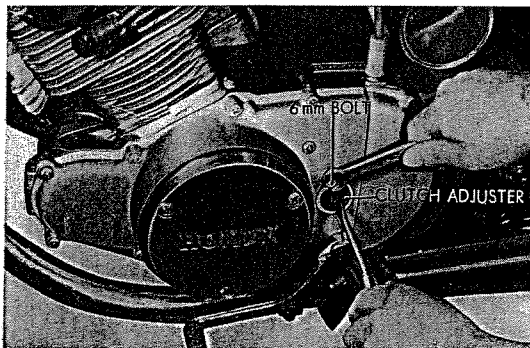

Fig. 6.28 Clutch adjustment
d. If correct adjustment cannot be made by the above, remove the 6 x 45 mm hex-head bolt and turn the clutch adjuster. If turned to the right, the clutch will become loose, and if to the left, tight. (Refer to Fig. 6.28)